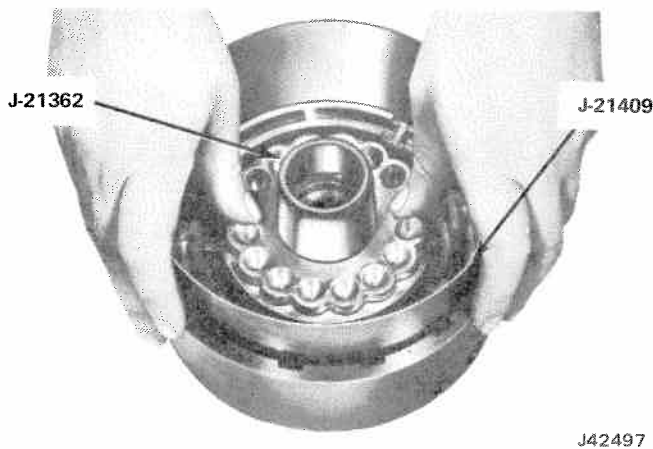

Fig. 7-67 Installing Forward Clutch Piston
(4) Place Seal Protector Tool J-21362 over clutch hub, and install outer clutch piston seal protector into clutch housing. Fit piston to housing; then rotate piston in housing until seated (fig. 7-67).
(5) Install sixteen clutch release springs into pockets in piston, and place spring retainer over spring.